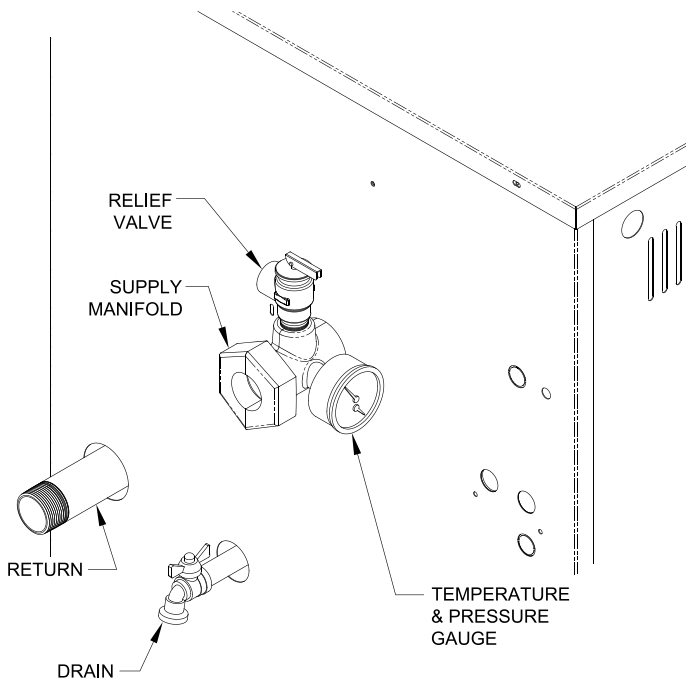

Figure 2: Near Boiler Piping
- C. Install Safety Relief Valve.** See Figure 2. Safety Relief Valve must be installed with spindle in vertical position.
- D. Connect system supply and return piping** to boiler. Refer to Figures 2, 5 and 6. Also consult Residential Hydronic Heating Installation and Design I=B=R Guide. Maintain minimum ½ inch clearance from hot water piping to combustible materials.